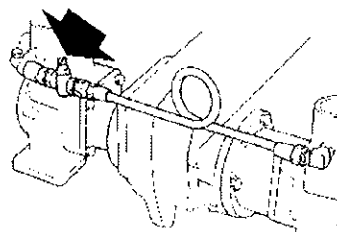

Fig. 36. Trickle-feed cock. The scribed line should be in line with the pipe when the cock is open
5. Open the boat's **sea-cock** and the **trickle feed cock** to the bilge pump, if fitted (fig. 36).